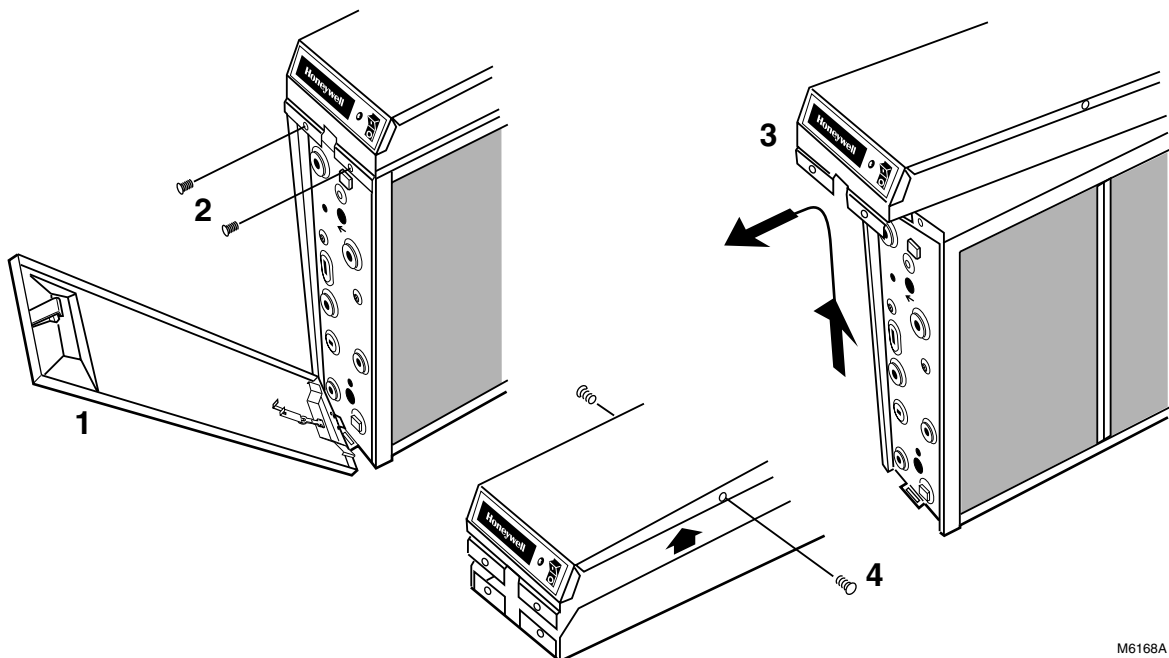

Fig. 24. Remove power box from air cleaner and remove cover.
- c. Remove the power box cover. See Fig. 24.
The solid state power supply within the power supply box can be replaced. When troubleshooting indicates a power supply or solid state performance indicator problem, replace the entire power box or replace the power supply within the box. See Installation Instructions, form 69-1136. See Fig. 24 for power box removal.